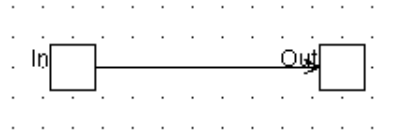

Figure 34: The *Connect* macro
- Step 8:** Click at the terminator *In* and then at the terminator *Out*. A transition between the two terminators will appear (see figure 34).